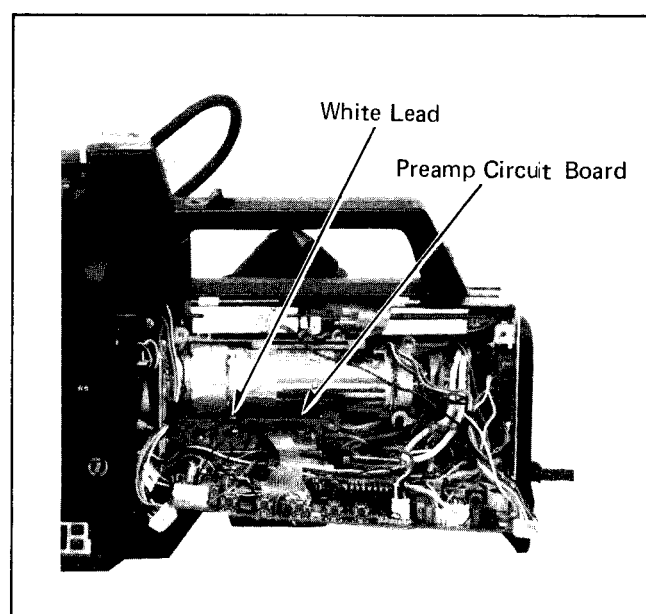

Fig. 4. Right Side View
- 3-5. Unsolder and remove a white lead from the preamp circuit board (see Fig. 4).